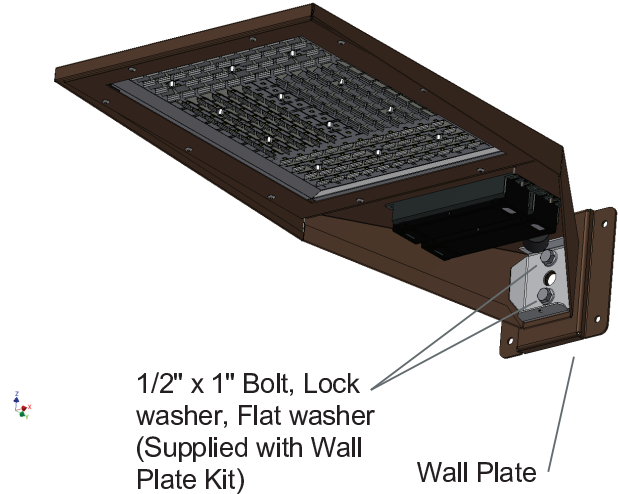

FIGURE 9
E. USING OPTIONAL WALL MOUNT PLATE - FIGURE 9